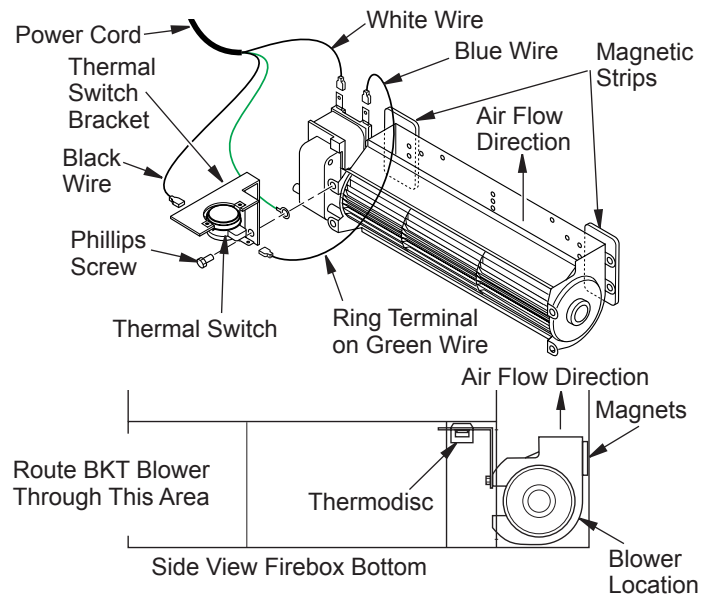

Figure 28 - Blower Model BKT
1. Place the green ground wire with ring terminal between the bottom hole on the thermal switch bracket and the top ear hole on the blower assembly. Insert the Phillips screw into all three pieces and tighten securely (see Figure 28).
3. Place the blower against the lower rear wall of the firebox outer wrapper with the exhaust port directed upward and the thermodisc positioned up near the fireplace bottom. The thermodisc must be oriented near the fireplace bottom as shown in Figure 28, page 15, in order to sense temperature and properly operate. The blower will be held in position against the back wall by the magnets incorporated onto the blower housing (see Figure 28, page 15).